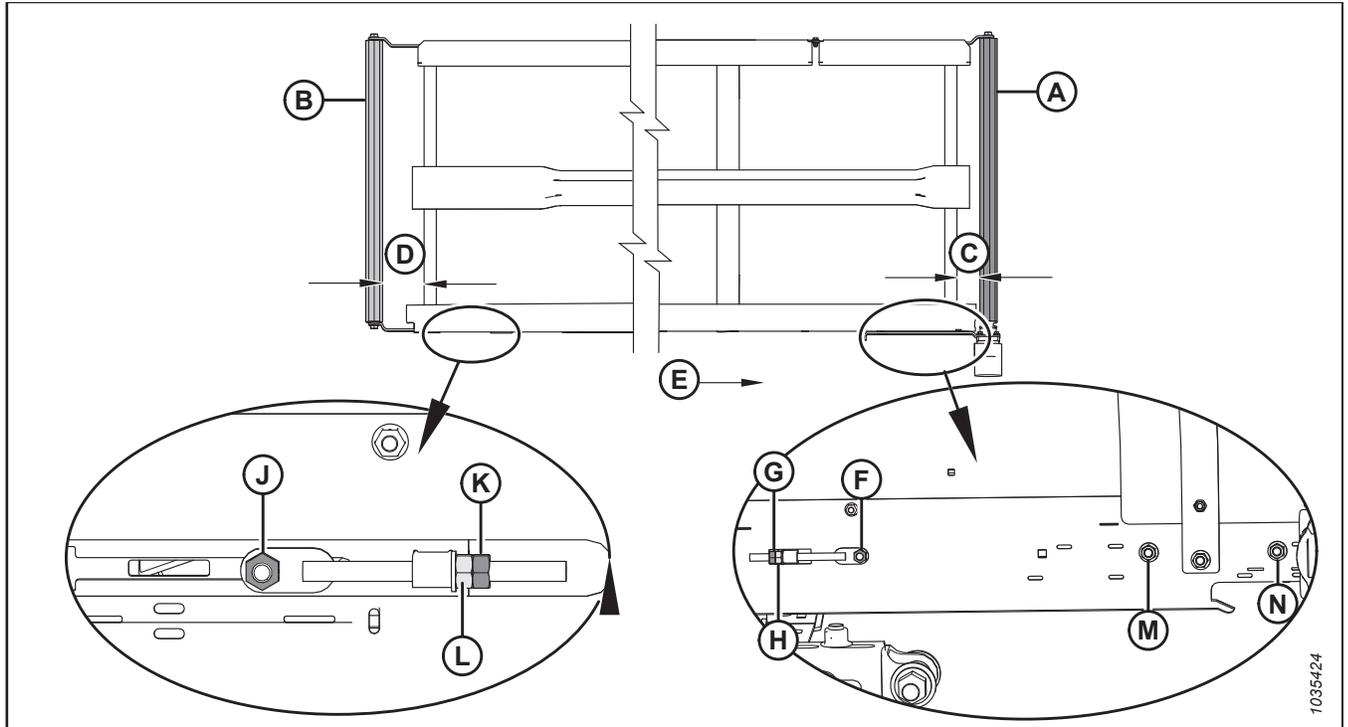

Figure 5.87: Draper Tracking Adjustments – Left Draper
2. Adjust drive roller (A) to change **C** (refer to Table 5.14, page 251 and Figure 5.87, page 251) as follows:
- a. Loosen nuts (F), (M), and (N), and jam nut (G).
- b. Turn adjuster nut (H).
- c. Tighten nuts (F), (M), and (N), and jam nut (G).
3. Adjust idler roller (B) to change **D** (refer to Table 5.14, page 251 and Figure 5.87, page 251) as follows:
- a. Loosen nut (J) and jam nut (K).
- b. Turn adjuster nut (L).